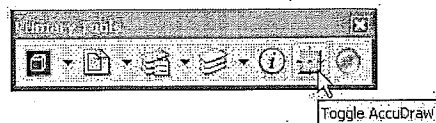

Figure P5-2 Invoking the AccuDraw tool
STEP 6: Invoke the AccuDraw tool from the Primary Tool box (see Figure P5-2).